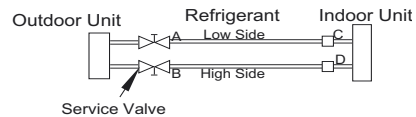

Fig. 14 – Service Valve
- Completely tighten flare nuts A, B, C, D, connect the manifold gage charge hose to a charge port of the low side service valve (see Fig. 14).